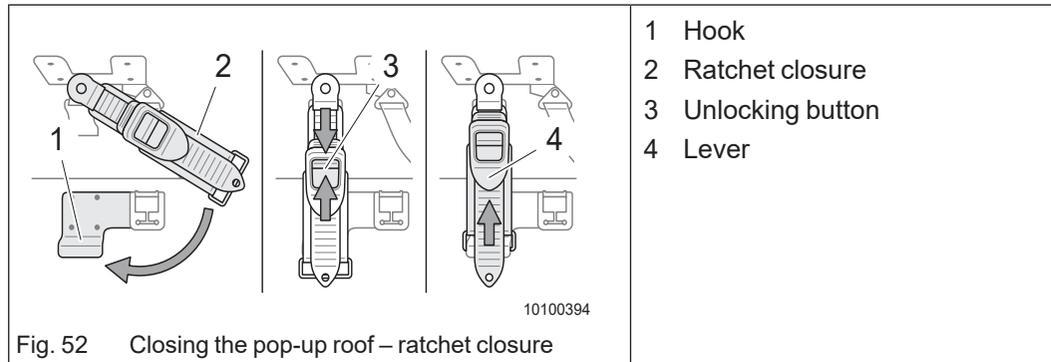

Fig. 52 Closing the pop-up roof – ratchet closure
- ➔ Once the roof is completely closed, swing the ratchet closure (Fig. 52/2) downwards.
- ➔ Use your thumb and index finger to press the red unlocking button (Fig. 52/3) together and hook in the ratchet closure (Fig. 52/1).
- ➔ Move the lever (Fig. 52/4) up and down. The pop-up roof is pulled down with each upward movement. Repeat this step until the ratchet closure cannot be tightened any further.